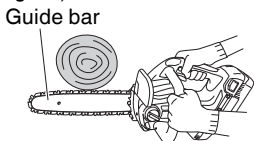

Fig. 24
- (5) When cutting into wood from the bottom, touch the upper part of the guide bar to the wood lightly. (Fig. 24)